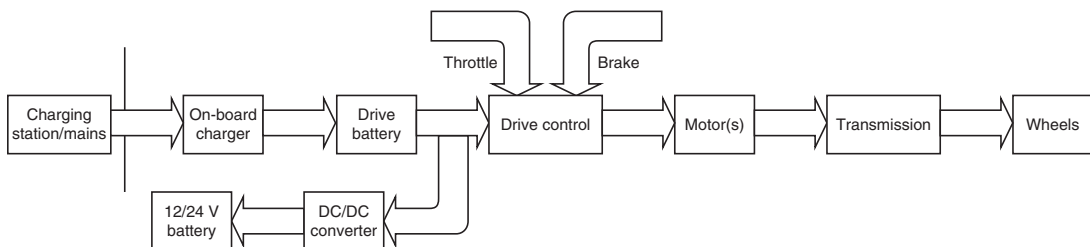

Figure 4.7 Generic electric vehicle layout
Figure 4.7 shows the general layout in block diagram form of an electric vehicle (EV). Note that because the drive batteries are a few hundred volts, a lower 12/24 V system is still required for 'normal' lighting and other systems.